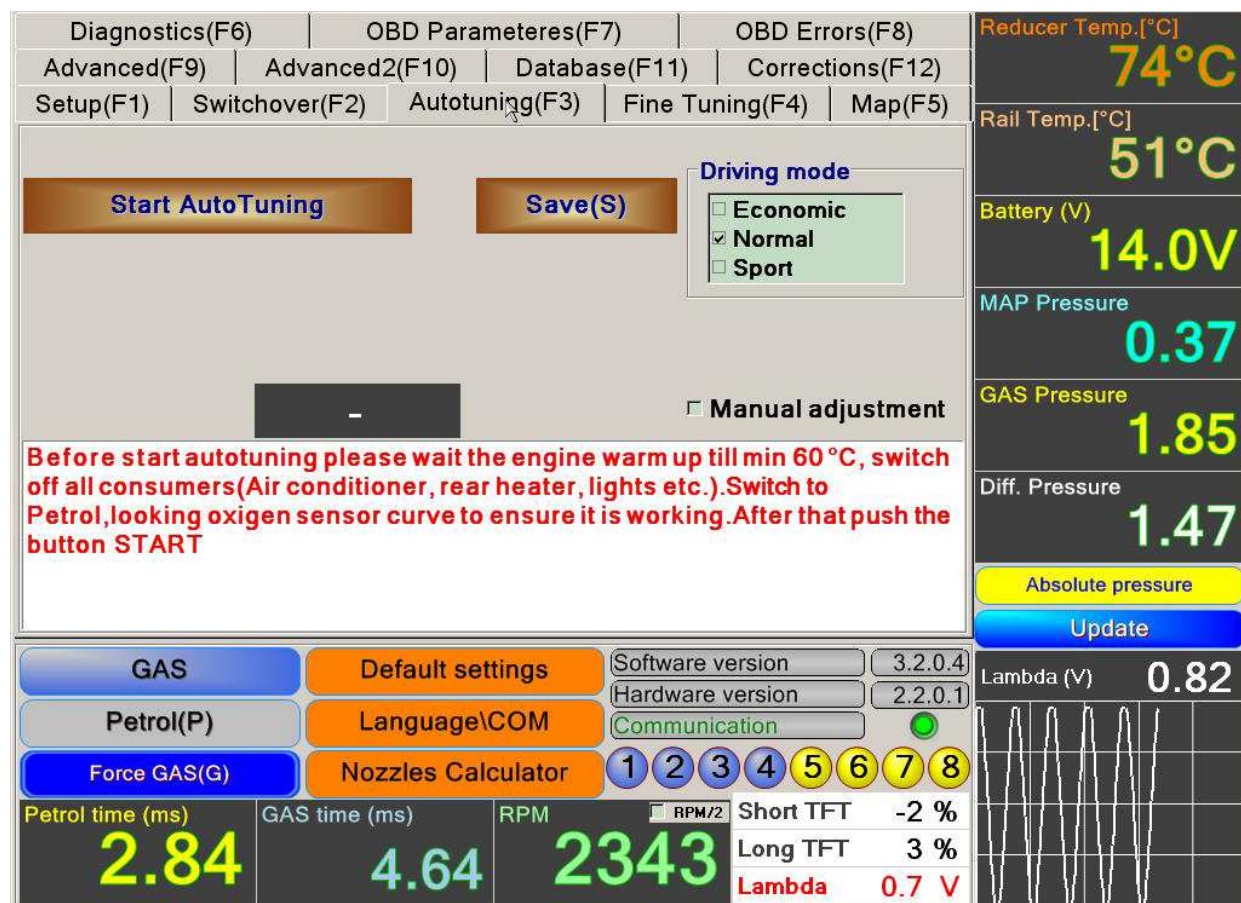

FIG.5
9. Menu “Autotuning” (F3) FIG.5
If the engine is working well you can go to “Autotuning mode” (FIG.5). It has to be done when all the power consumers are switched off (A/C, window, seat and mirror heaters, lights, cooling fan of the radiator). The engine must reach minimum 60°C and you have to sure by the lambda sensor data that the petrol ECU regulates. Than the AUTOTUNING procedure can start by pressing the button. Follow the instructions in a few steps that will appear in red colour in the fileld.
Until now all the operations are executed in “Petrol” mode. When the temperature is minimum 20°C you can switch over in “LPG” mode looking for the differential pressure to be near to 1.5bar. When you have normal RPM in idle, pressure, working engine with increased temperatures over 70°C on the reducer and at least 50°C on LPG rail, you can go to auto tuning mode. Anyway, from the menu “DIAGNOSTICS” (FIG.5) you can switch each cylinder separately on LPG, looking for normal engine behavior in this case you can catch eventually not working LPG injector or improper sequence which could be easy normalized by using the injector terminals.
When the engine is “full group” or “Semi sequential” you must click also on the check box “Full group”. By that the LPG injectors will inject fuel 2 times less (over tact). In this case you have use bigger size calibrated nozzles than standard for the pressure and the engine power. (Fig.5)